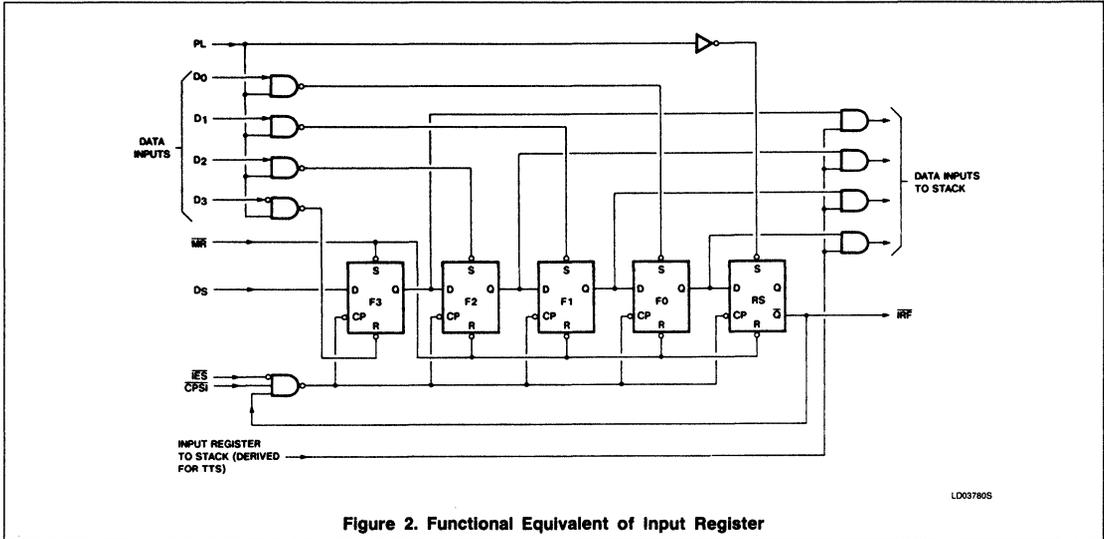

Figure 2. Functional Equivalent of Input Register
Data can be entered serially or, using the parallel mode of operation, data is entered in 4-bit increments. In either case, the data is subsequently transferred to the fall-through stack; the functional equivalent of this register is shown in Figure 2. The Input Register Full (IRF) status signal is internally generated by the Register Status (RS) flip-flop; when initialized, the  $\bar{Q}$  (IRF) output of this flip-flop is high.
When PL is high and  $\bar{CPSI}$  is low (Figure 2), flip-flops F0 – F3 are loaded with data and IRF is forced low. This condition remains until current data is transferred to the stack. Once the data is transferred, IRF is driven high and new data can again be clocked into the input flip-flops. If parallel expansion is not being implemented,  $\bar{IES}$  must be low to establish row mastership — refer to discussion of parallel expansion.
As shown in Figure 2, the outputs of F0 – F3 are applied to the stack under control of a signal derived from  $\bar{TTS}$ . When  $\bar{TTS}$  is low, an attempt to initiate a fall-through action is made. If the top location of stack is empty, data is loaded and the input register is re-initialized provided PL is low. Note that initialization is postponed until PL is again low. Thus, automatic FIFO action is achieved by connecting the  $\bar{TTS}$  input to the IRF output.
The RS flip-flop (Figure 2) records the fact that data has been transferred to the stack; this flip-flop is not cleared until PL goes low. Therefore, if a particular data word is transferred to the stack and falls to the second location before PL goes low, the same word will not be re-transferred even though IRF and  $\bar{TTS}$  are still low. Once data enters the stack, "fall-through" is automatic; a delay is